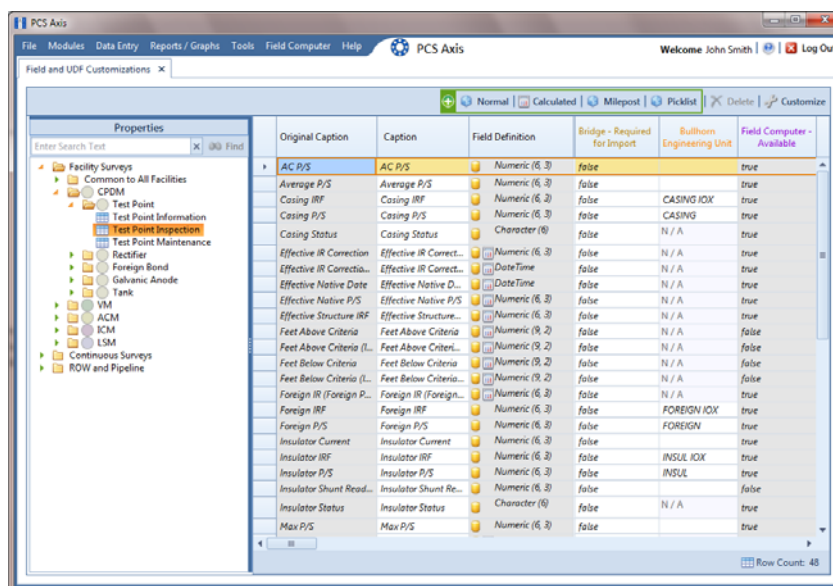

Figure 2-26. Field and UDF Customizations
- 3 Select an item in the *Properties* panel that includes the data entry grid you want to add a UDF. For example, double-click **Facility Surveys > CPDM > Test Point > Test Point Inspection** to display a grid with fields and property settings related to the *Test Point Inspection* data entry grid (Figure 2-26).